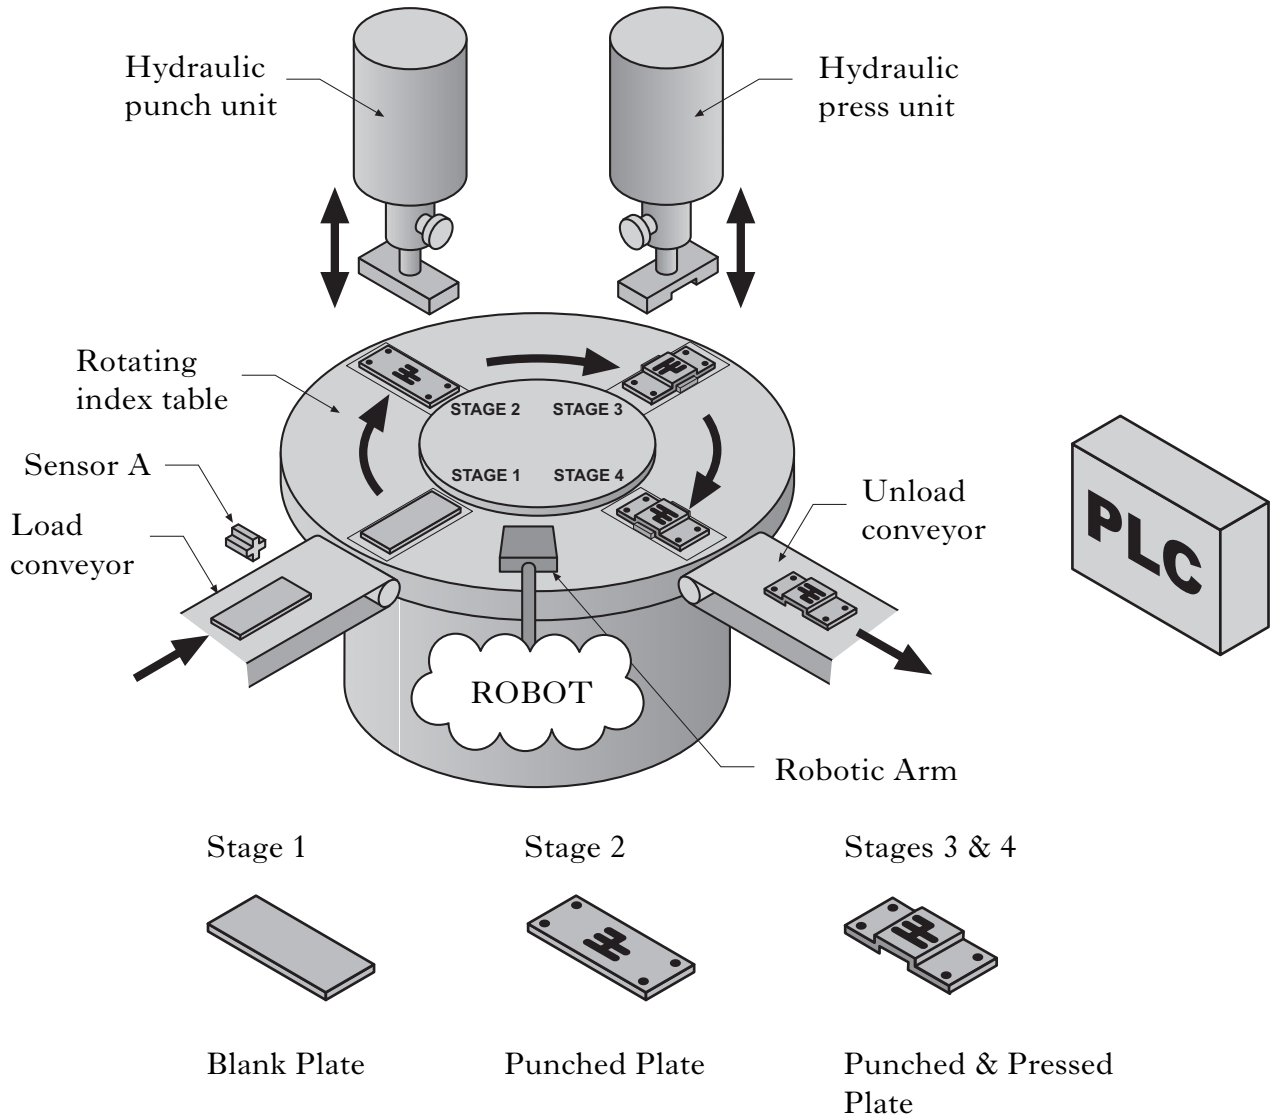

Figure Q11
11. Figure Q11 shows a simplified schematic diagram of an automated workstation that produces sheet steel guide plates.